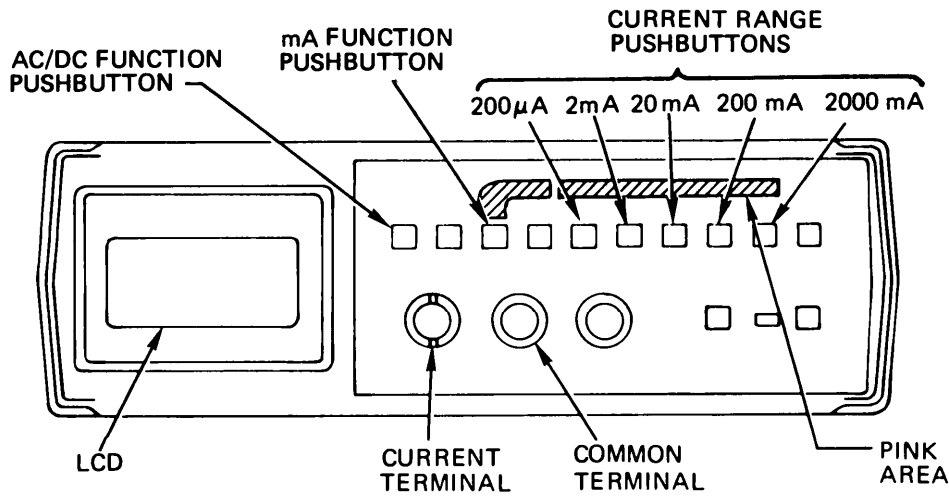

Figure 1-6. Current Measurement Controls
(5) Current Measurements. The controls and terminals for current measurements are shown in figure 1-6. The AC/DC and mA function pushbuttons select the correct input circuitry. The pink colored area above the mA pushbutton extends up and to the right to enclose the five range value pushbuttons for measuring current.